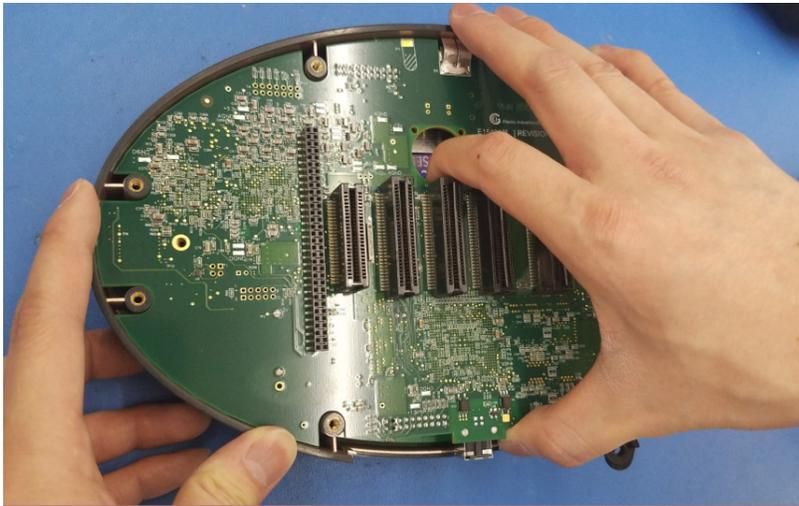

Figure 3.17: Aligning the Digital Board and the Front Panel Board
15. Check that the digital board headers have no bent pins, and then align the headers and connectors of the digital board and the front panel board. Carefully push the main digital board on to the front panel display making sure the connectors are aligned. Once fully seated, secure the main digital board to the front panel using two pan head screws. See Figure 3.17.